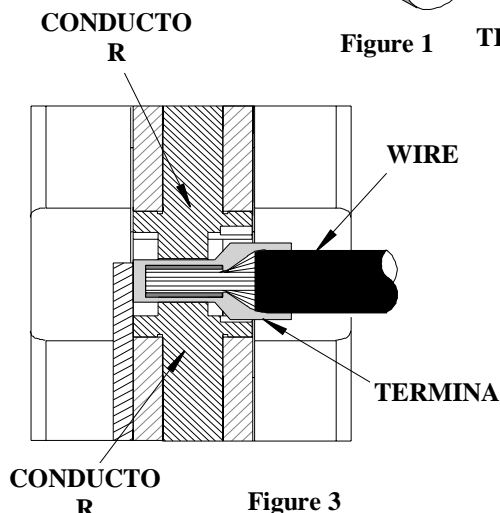

Figure 3
2. Insert the properly stripped wire into the terminal barrel, (See figure 3).